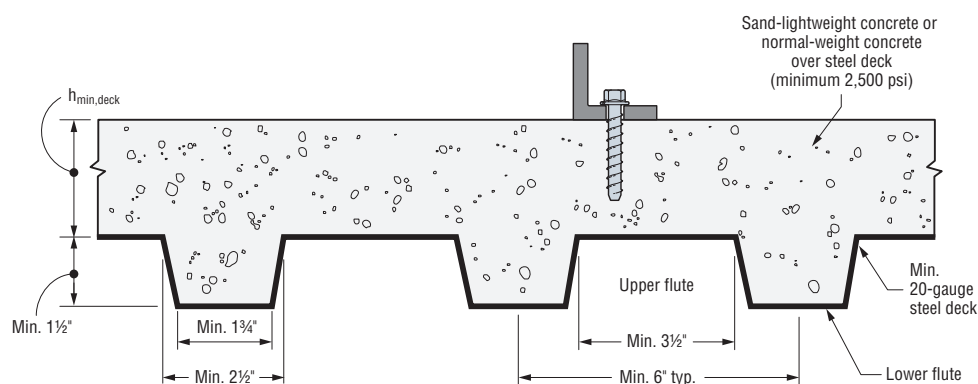

Figure 1 - Installation of ¼", ⅜" and ½" Shank Diameter Screw Anchors in the Topside of Concrete-Filled Profile Steel Deck Floor and Roof Assemblies
9. Installation must comply with Figure 1.